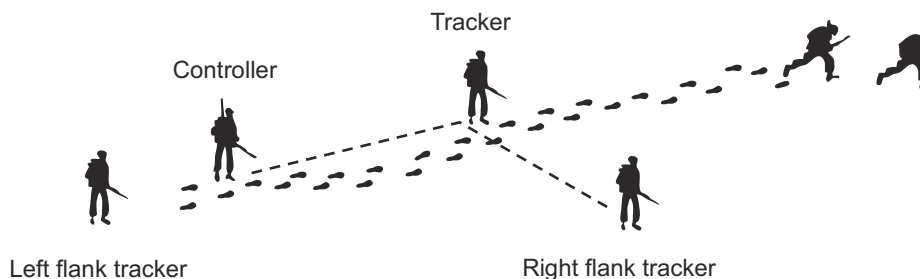

Figure 2-6. Half “Y” Formation.
- *Half “Y” formation.* This formation is used when ground or vegetation conditions are such that the flank tracker cannot keep up with the speed of the follow-up. Although he is now positioned to the rear of the controller, he is still responsible for observing his zone of responsibility. See figure 2-6.